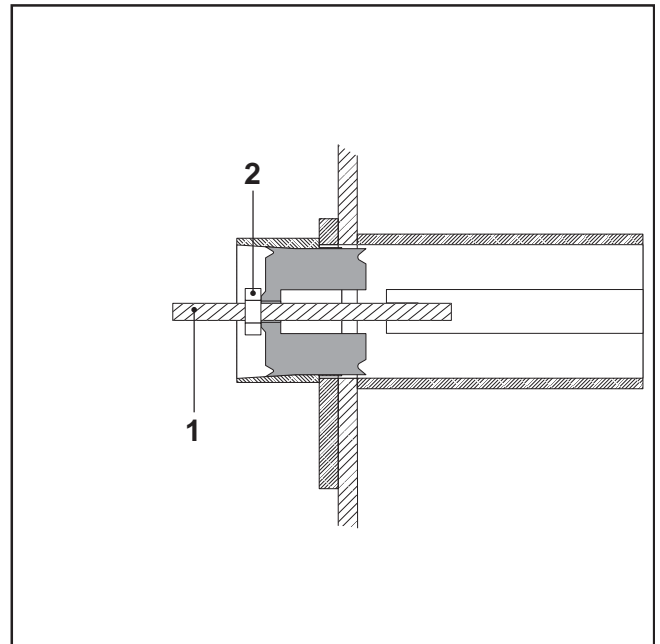

FIG.48
- Screw on the threaded rod M24 (FIG.48-REF. 1) and the threaded nut (FIG.48-REF. 2).